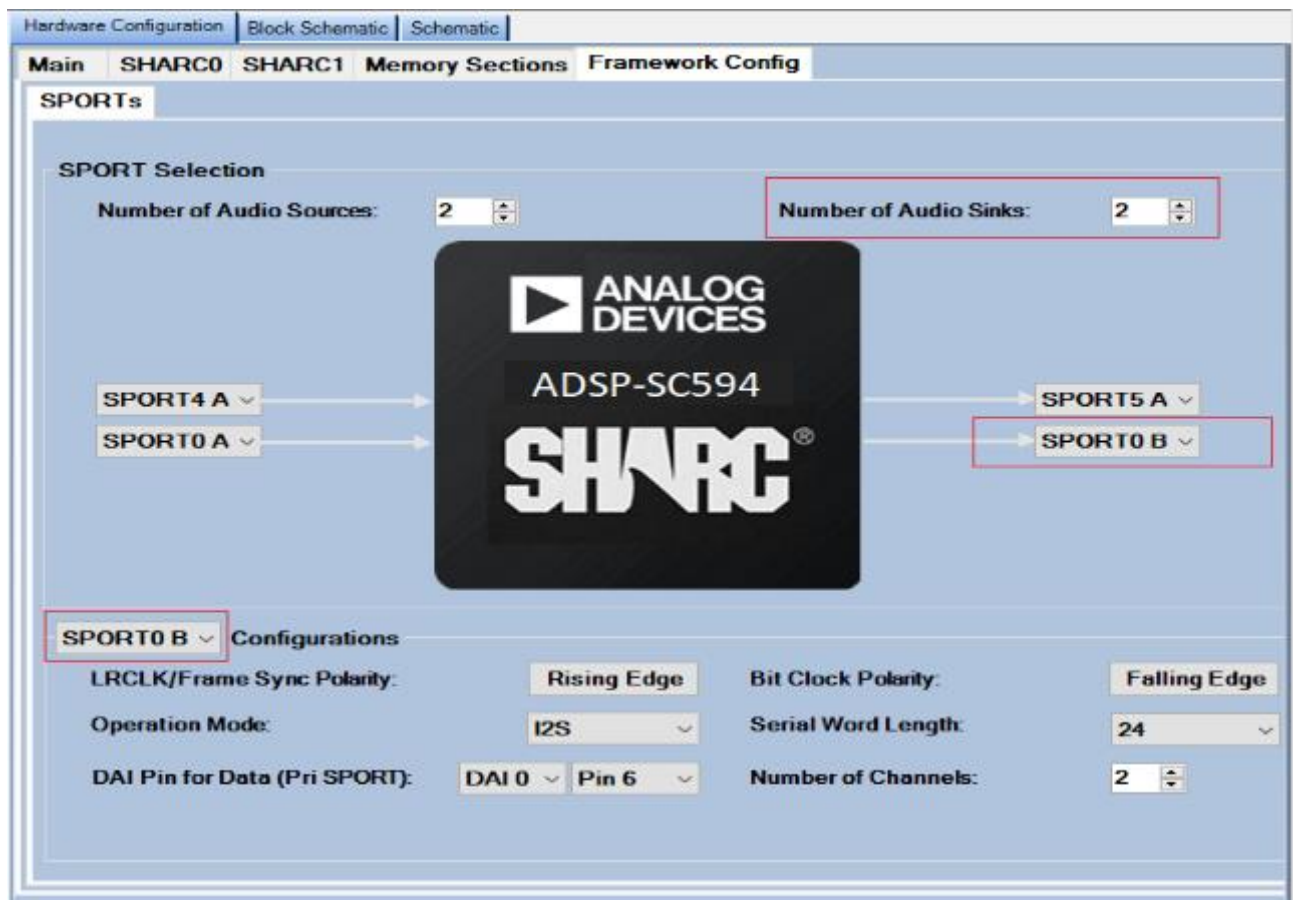

Figure 39: Framework Configuration for S/PDIF Transmitter support
2. In SigmaStudio hardware configuration tab, framework configuration must be opened and add 1 more sink for S/PDIF transmitter output. Please refer Figure 39.
3. Assign the desired sport channel based on DAI pin group (For DAI0 – SPORT 0A, 0B, 1A, 1B, 2A, 2B, 3A and 3B / For DAI1 – SPORT 4A, 4B, 5A, 5B, 6A, 6B, 7A and 7B). Please refer Figure 39.
4. In the drop-down menu below in configurations choose the S/PDIF Tx sport channel and update the required setting as 2 channels, I2S format, 24-bit width, frame sync and bit clock polarity. Please refer Figure 39.